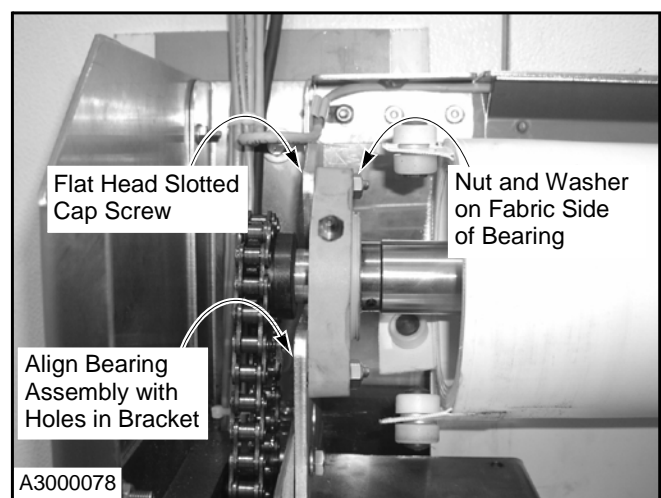

Figure 19
5. At the sprocket end of the assembly, align the holes in the bearing assembly with the holes in the bearing mounting bracket. Then attach the bearing to the bracket using two SS $\frac{3}{8}$ -16 x $1\frac{1}{4}$ -in. flat head slotted cap screws, washers, and lock nuts. (See Figure 19.)
IMPORTANT: To prevent damage to the wind knobs and the fabric roll, the cap screws must be installed from the inside face of the bearing assembly — the head of each screw must be on the fabric side of the bearing. (See Figure 19.)